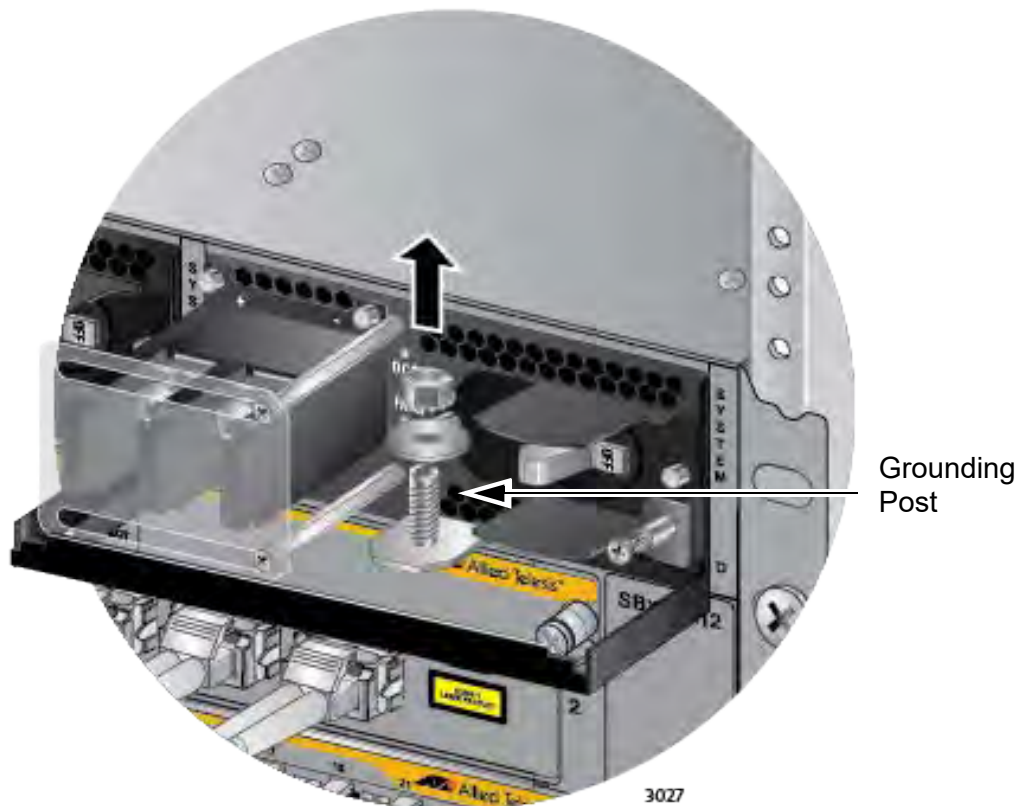

Figure 128. Removing the Nut and Washer from the Grounding Post
3. Use an 8 mm wrench to remove the grounding post nut and washer, shown in Figure 128, from the power supply.
2. Use an 8 mm wrench to remove the grounding post nut and washer, shown in Figure 128 on page 209, from the grounding post on the power supply.